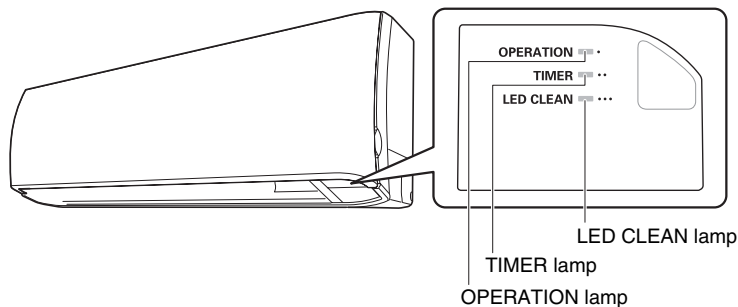

Fig. 8c
- This starts the fan producing uncooled forced air with the 3 indicator lamps (OPERATION lamp, TIMER lamp, and LED CLEAN lamp) on the main unit blinking. (Fig. 8c)